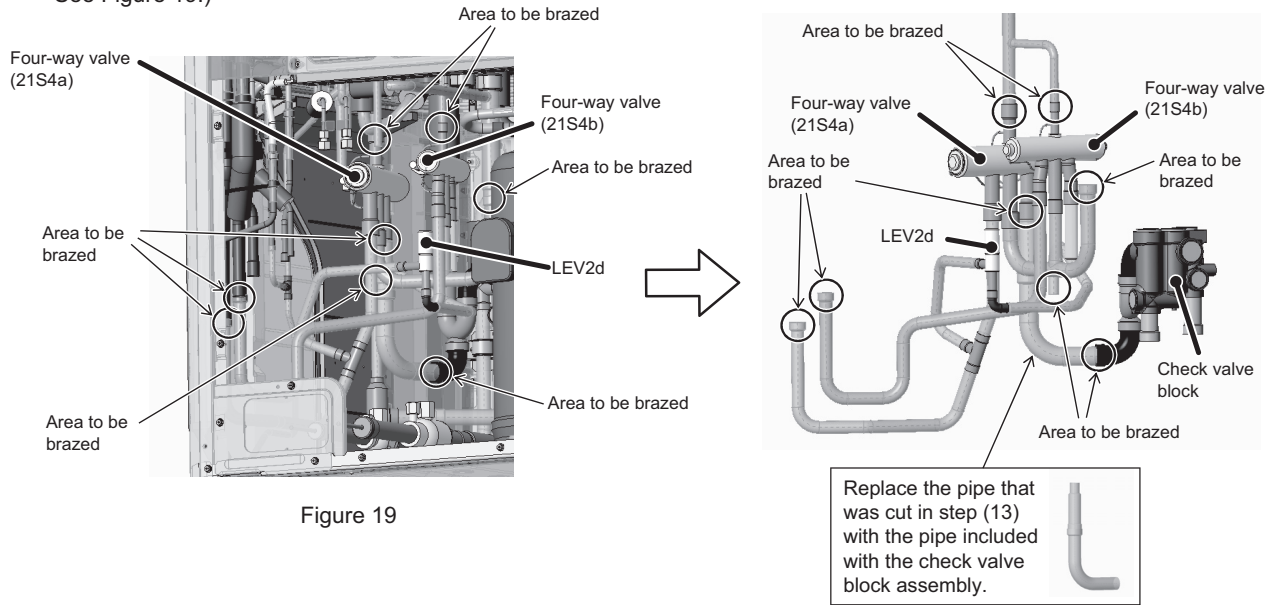

Figure 19
(19) Re-place the check valve assemblies (21S4a and 21S4b) whose pipes were replaced in step (16). (8 areas to be brazed. See Figure 19.)